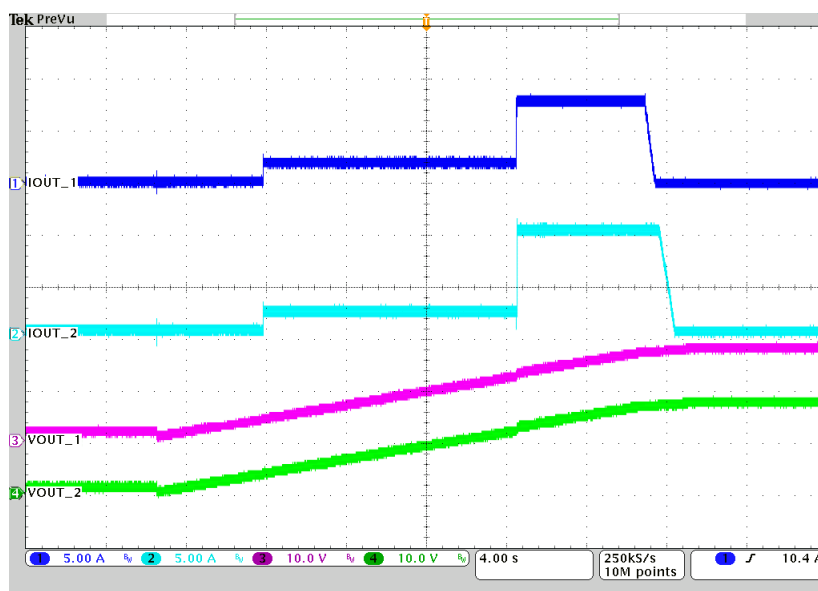

Figure 2-1. Staggered CC-to-CV Transition
Figure 2-1 shows the transition from constant-current (CC) to constant-voltage (CV) operation for two BQ25756 devices connected in parallel. IOUT_1 and IOUT_2 show the individual charge currents, while VOUT_1 and VOUT_2 show the battery voltage measurements seen by each device. As the battery voltage increases, the device with the lower voltage regulation threshold reaches CV regulation first and begins reducing its charge current. The second device remains in CC operation and continues supplying its programmed charge current until its regulation threshold is reached. The second device then enters CV regulation and reduces its charge current. This staggered transition allows the devices to enter CV regulation separately rather than having both voltage regulation loops regulate the output at the same time to prevent the two voltage regulation loops from competing with each other.